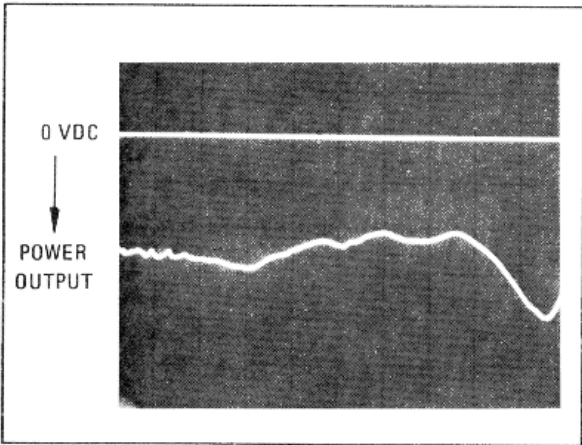
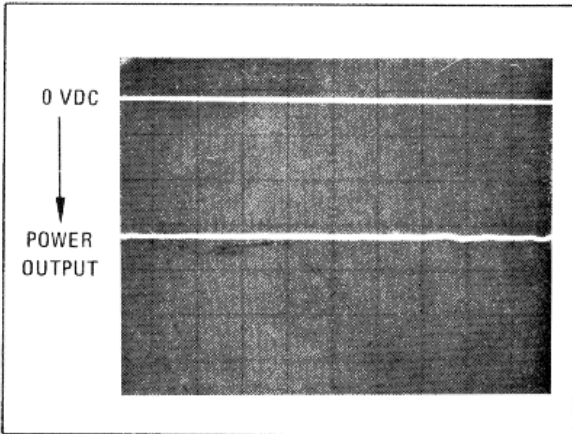

Figure 3-4. Unlevelled RF Power Output
Figure 3-5. Levelled RF Power Output
3. Check that RF Plug-in is sweeping correctly. This is indicated by a continuous signal line on oscilloscope similar to Figure 3-4
4. Adjust ALC GAIN 11 and POWER LEVEL 10 controls fully clockwise for maximum RF power and maximum external preamplifier gain. One of the conditions shown in Figure 3-4 through 3-6 should be displayed on oscilloscope. If trace is unlevelled, as shown in Figure 3-4, or just partially levelled and UNLEVELED light is on, turn POWER LEVEL 10 control counterclockwise to reduce power output until trace is level across band as shown in Figure 3-5. If external preamplifier gain is too high, oscillations may occur as shown in Figure 3-6. To remove oscillations, reduce external preamplifier gain by turning ALC GAIN 11 control counterclockwise.
5. One of the conditions shown in Figure 3-4 through 3-6 should be displayed on oscilloscope. If trace is unlevelled as shown in Figure 3-4, turn POWER LEVEL control 10 counterclockwise to reduce power output until trace is level across band as shown in Figure 3-5. If loop gain is too high, oscillations may occur as shown in Figure 3-6. To remove oscillations, reduce gain by turn ALC GAIN control 11 counterclockwise.